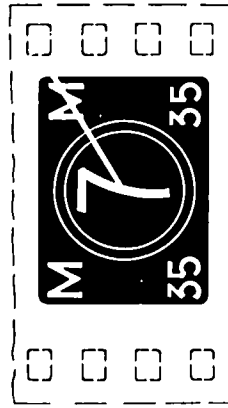

Fig. 5 35-mm Magnetic Sound Start
- Frame 55—"M" and "35" vertically on each side of the "7" in letters 1/8 in (3.2 mm) high, clear on a black background, to indicate 35-mm magnetic sound start. (See Fig. 5.)